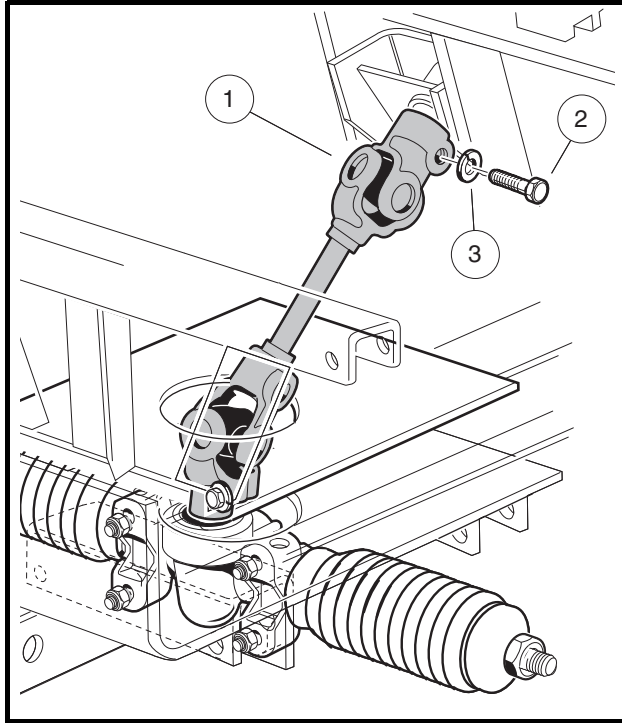

Figure 7-4 Steering Joint Assembly
4. Install bolt (2) and lockwasher (3) on the upper steering joint and finger-tighten (**Figure 7-4, Page 7-4**).